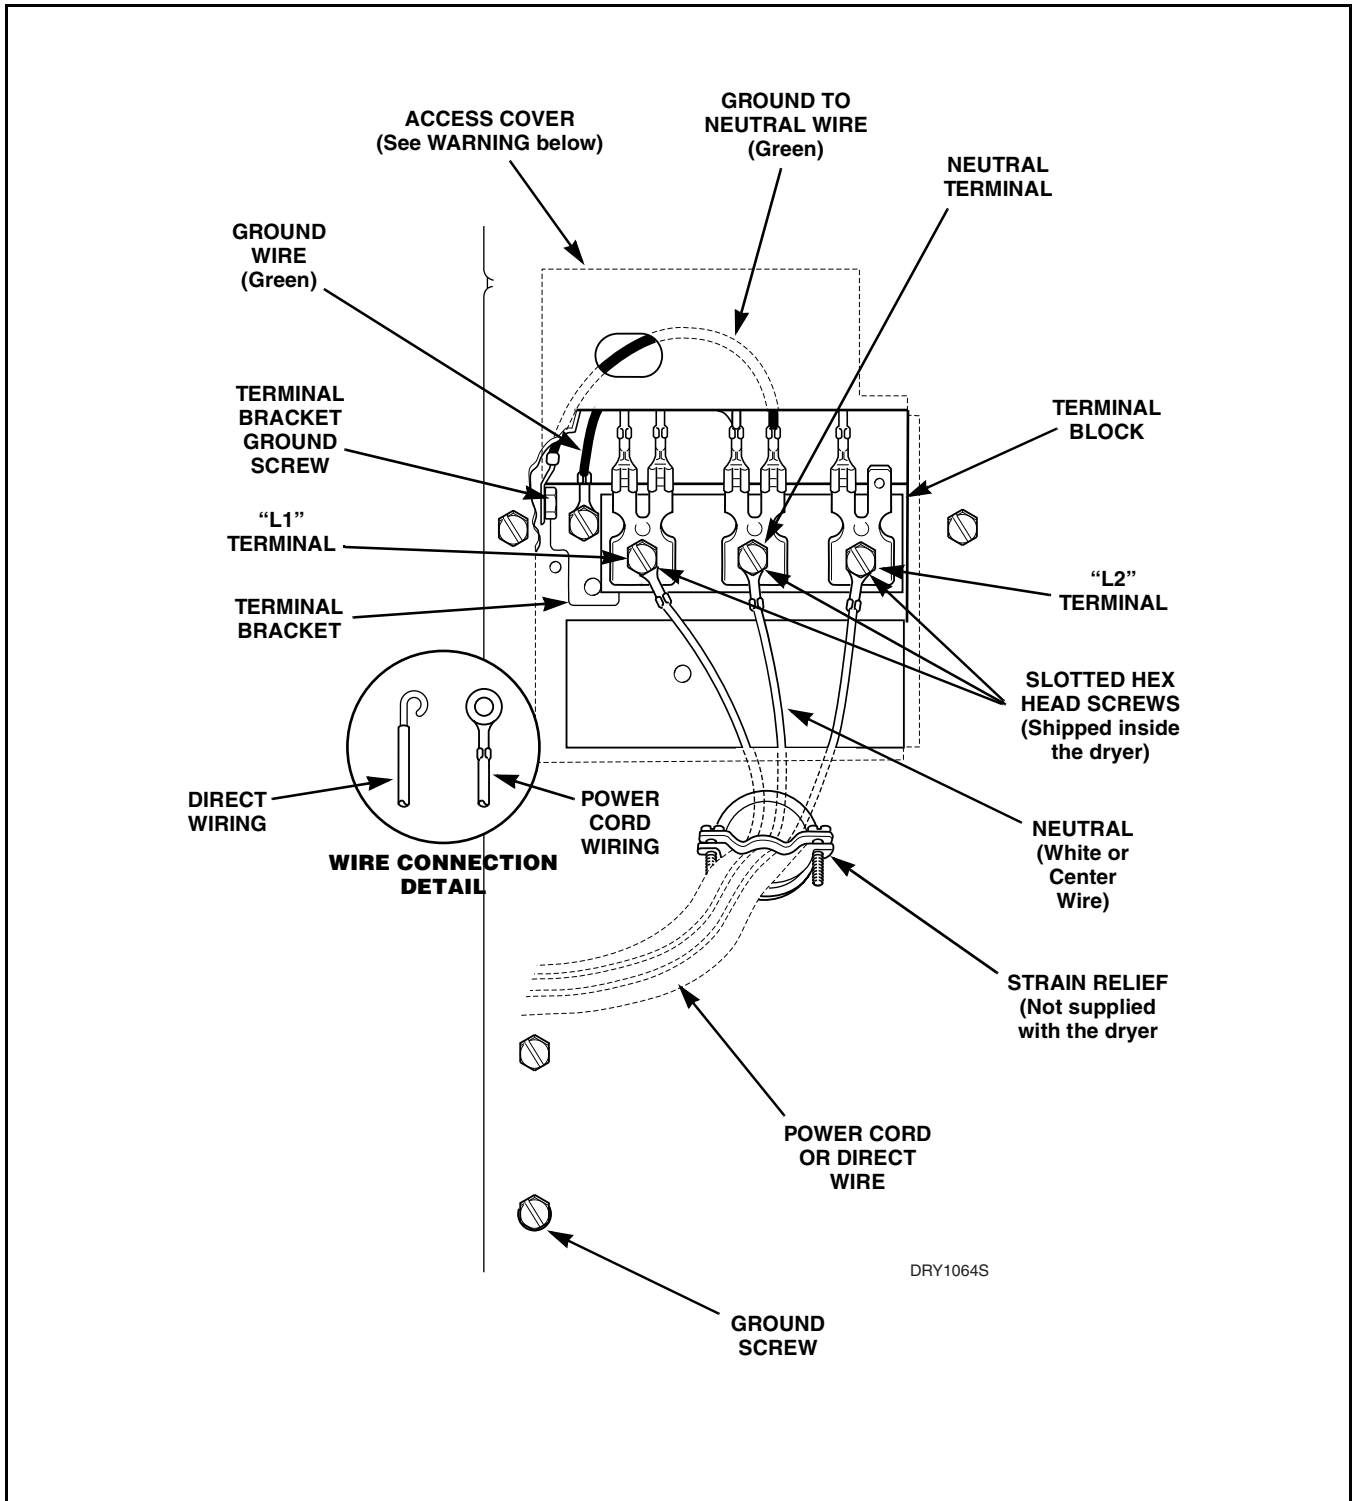

Figure 56
- (5) Route the end of the four-wire power cord through the strain relief. **DO NOT** tighten the strain relief screws at this time.
- (6) Insert the end of the power cord and strain relief through the hole in the rear of dryer cabinet. Refer to *Figure 56*. Install the strain relief nut from the inside of the cabinet and tighten firmly.
- (7) Attach the green ground wire (from the four-wire power cord) to the terminal block mounting bracket using the hex head screw removed in Step 4. Tighten the screw firmly.
- (8) Using the three wire-binding (10-32x3/8") screws from the accessories envelope (located inside the cylinder, unless the screws were previously removed in Step 2), attach the power cord wires to the terminal block terminals as follows:
NOTE: When installing the white wire, loop the free eyelet end of the green ground wire (from Step 4) and place it together with the white wire. Attach both wires to the neutral (center) terminal on the terminal block. Refer to *Figure 56*.